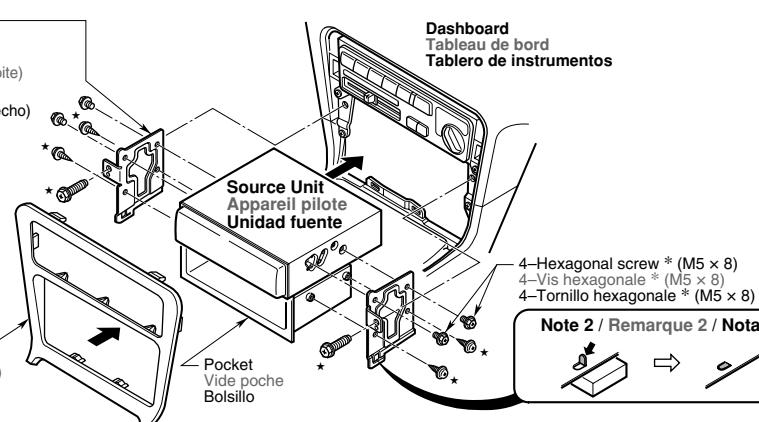

Figure 11 / Figure 11 / Figura 11
If the vehicle is equipped with a factory-installed radio, install the source unit with the parts and screws marked (★). (Figure 11)
1. Secure the mounting brackets to the chassis as shown in Figure 11. When the source unit is installed without the universal mounting bracket, holes exist; modification, such as drilling new holes, of the mounting brackets may be required for other models.